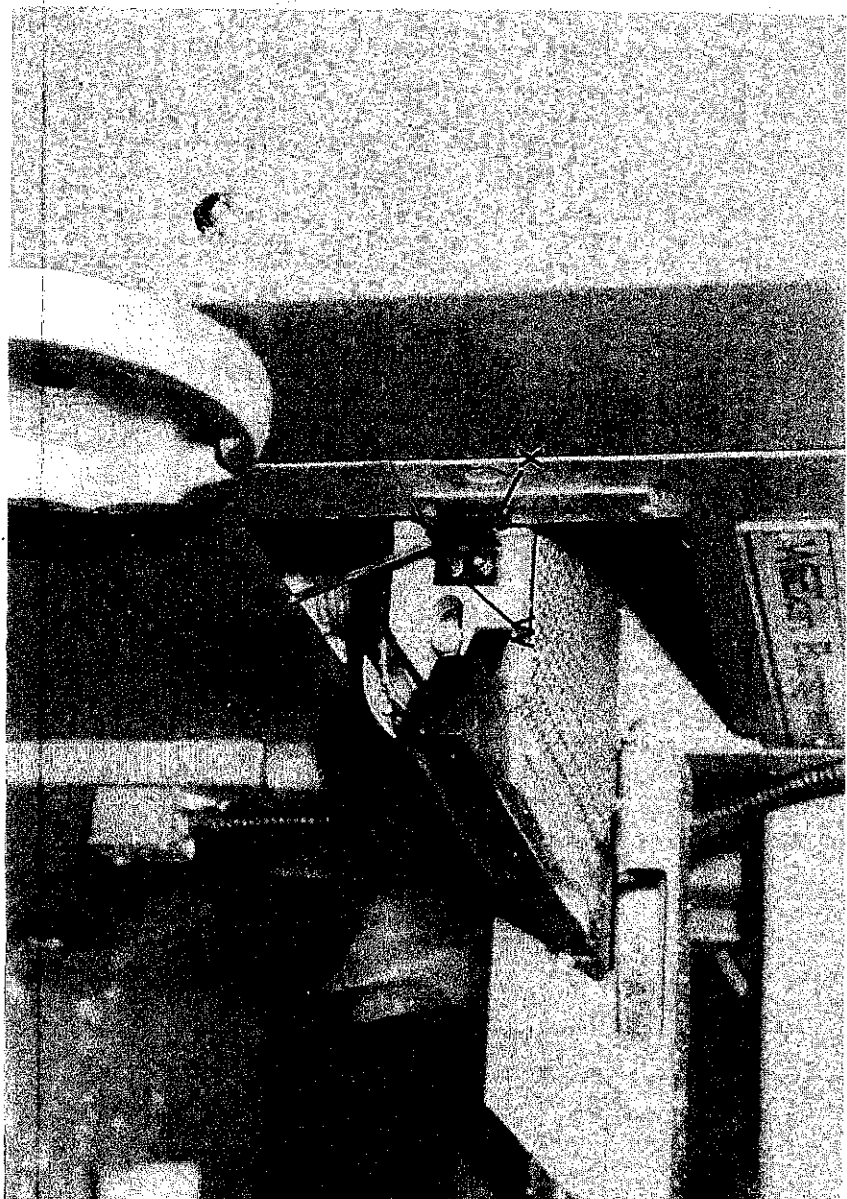

Fig 33
- 5) Remove 2 - M6 cap head screws "W" and thickneser pointer "X " FIG.33.